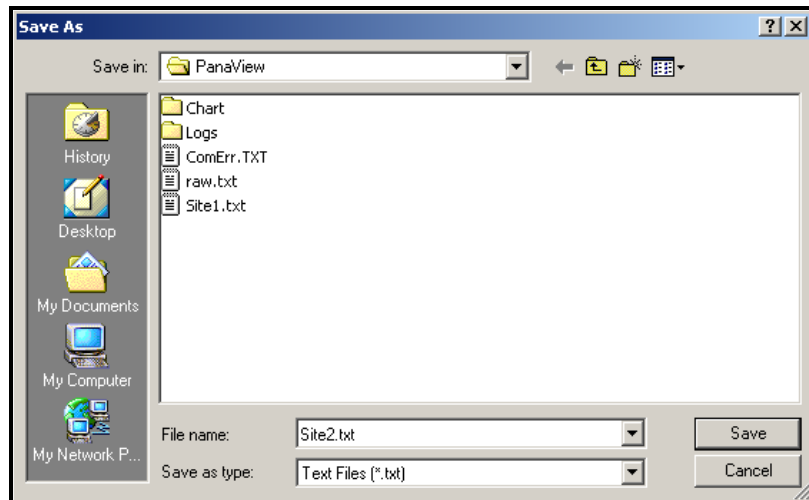

Figure C-13: Save As Window
Saving Transducer Signals To *save* the raw signal, click *Save*. A window opens similar to Figure C-13 below. Enter the desired name, and click *Save* to save the signal as a text file.
2. Click *Save Site to PC*. A window opens similar to Figure C-13 on page C-11.